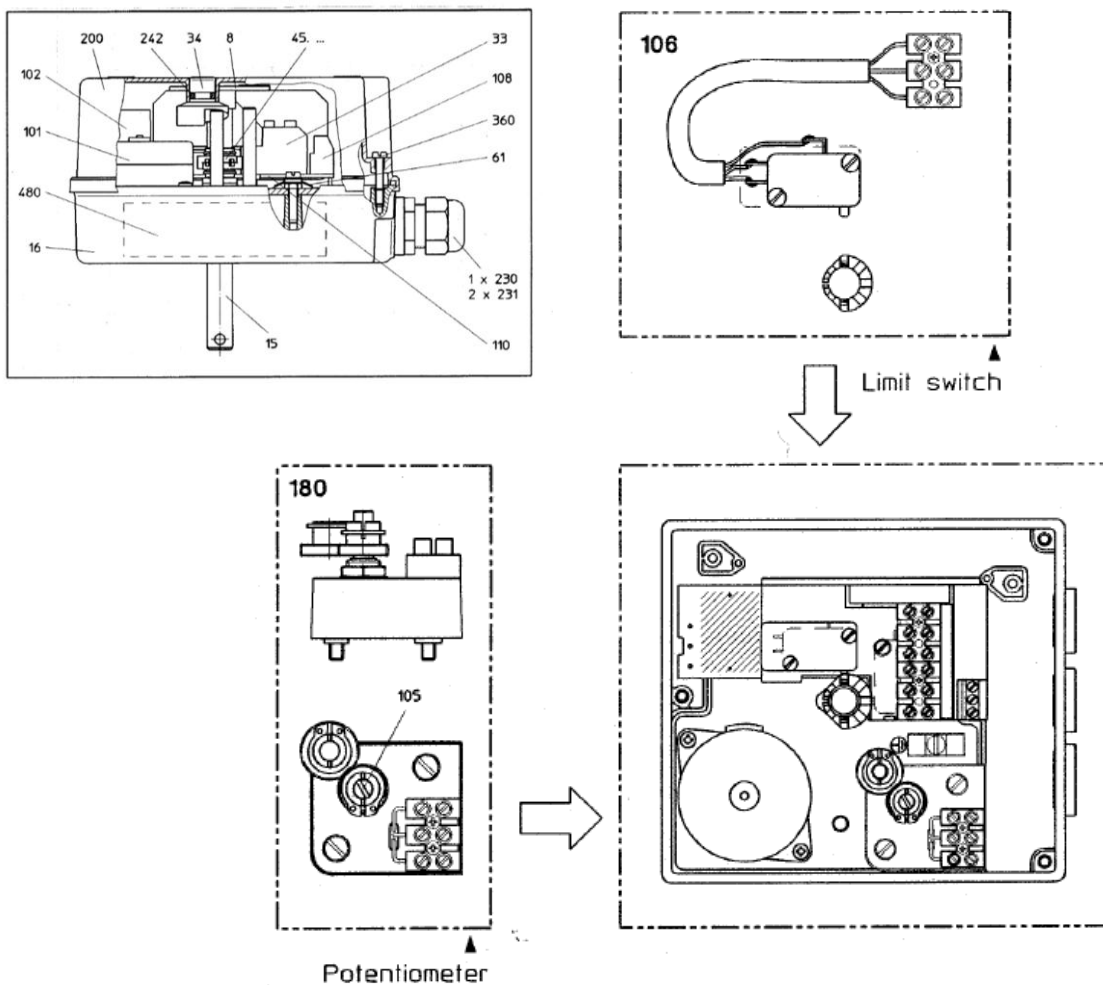

Fig. 2: Sectional drawing
- For the structure of the rotary actuators with motor, gear housing and driving shaft, please refer to Fig.2